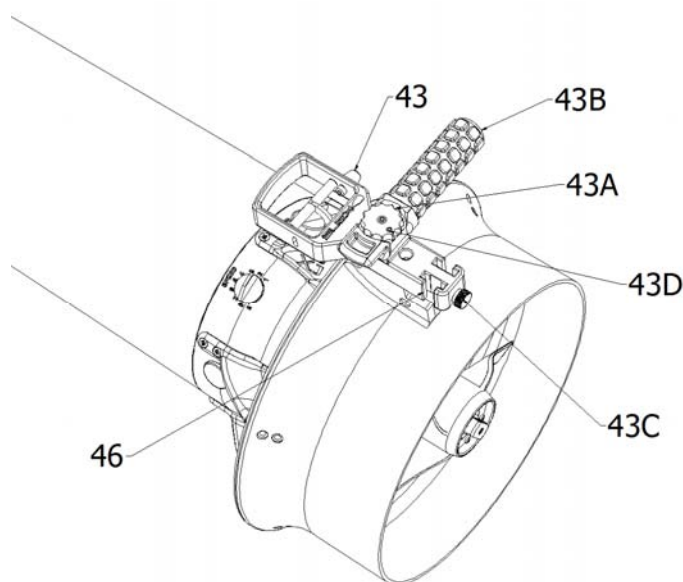

Figure 11
In the control device (fig.11) you can find:
The knob cruise control (43)(see fig.11), must only be used under the diver's maximum control. The knob, trigger or ADV ON/OFF switch must be usable at all times to avoid any type of collision or driver dragging risks in hazardous areas.